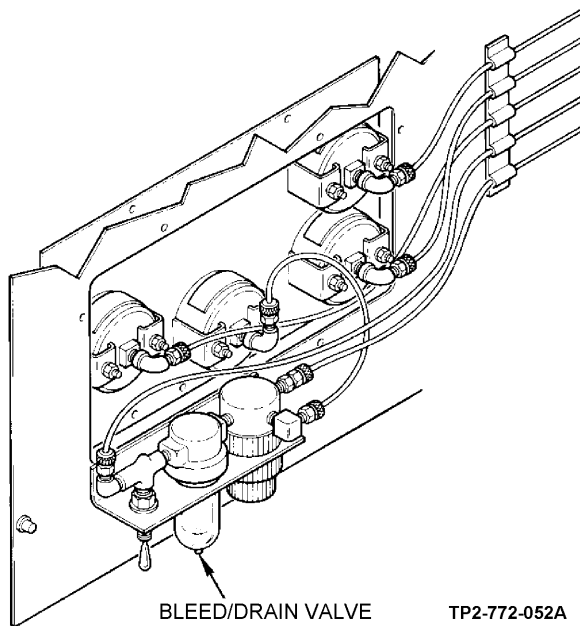

Figure 3-19. Bleed/Drain Valve Location
- (5) Using flat side of a screwdriver tip, press and hold bleed/drain valve (figure 3-19) to drain any moisture within the system. Exercise caution not to damage bleed/drain valve.
- (6) Release bleed/drain valve (figure 3-19).